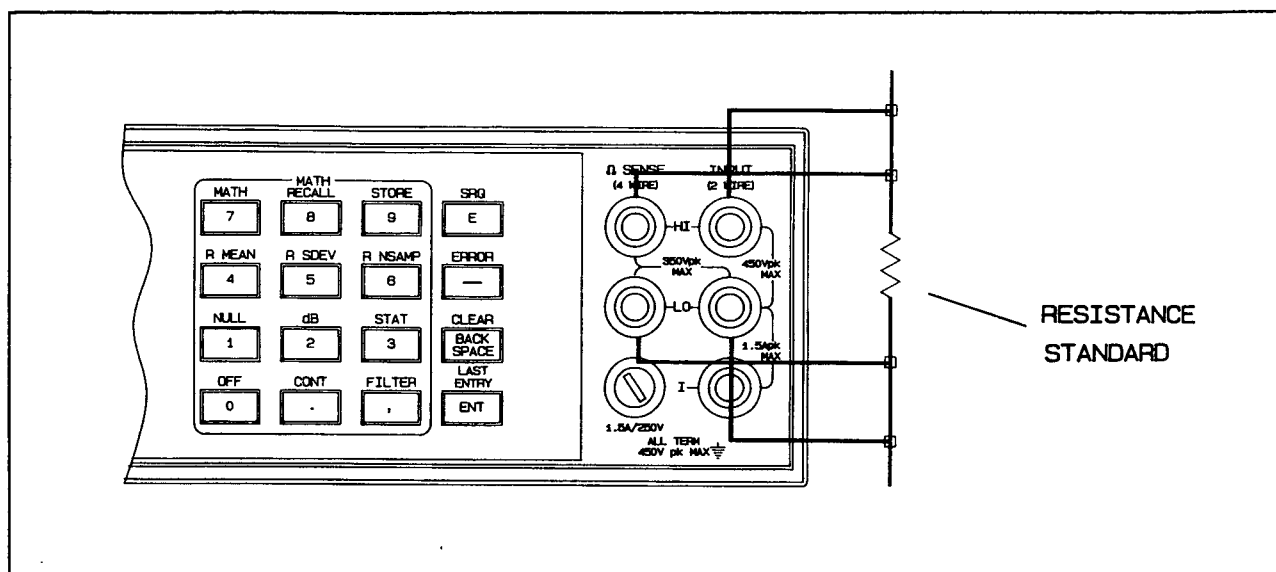

**Figure 5-2. Input Connections for 4-Wire Ohms Gain Calibration**
- b. Set the Resistance Standard to 30 MOhms and connect it to the HP 3457A front panel HI and LO Input terminals and  $\Omega$  Sense HI and LO terminals as shown in Figure 5-2.